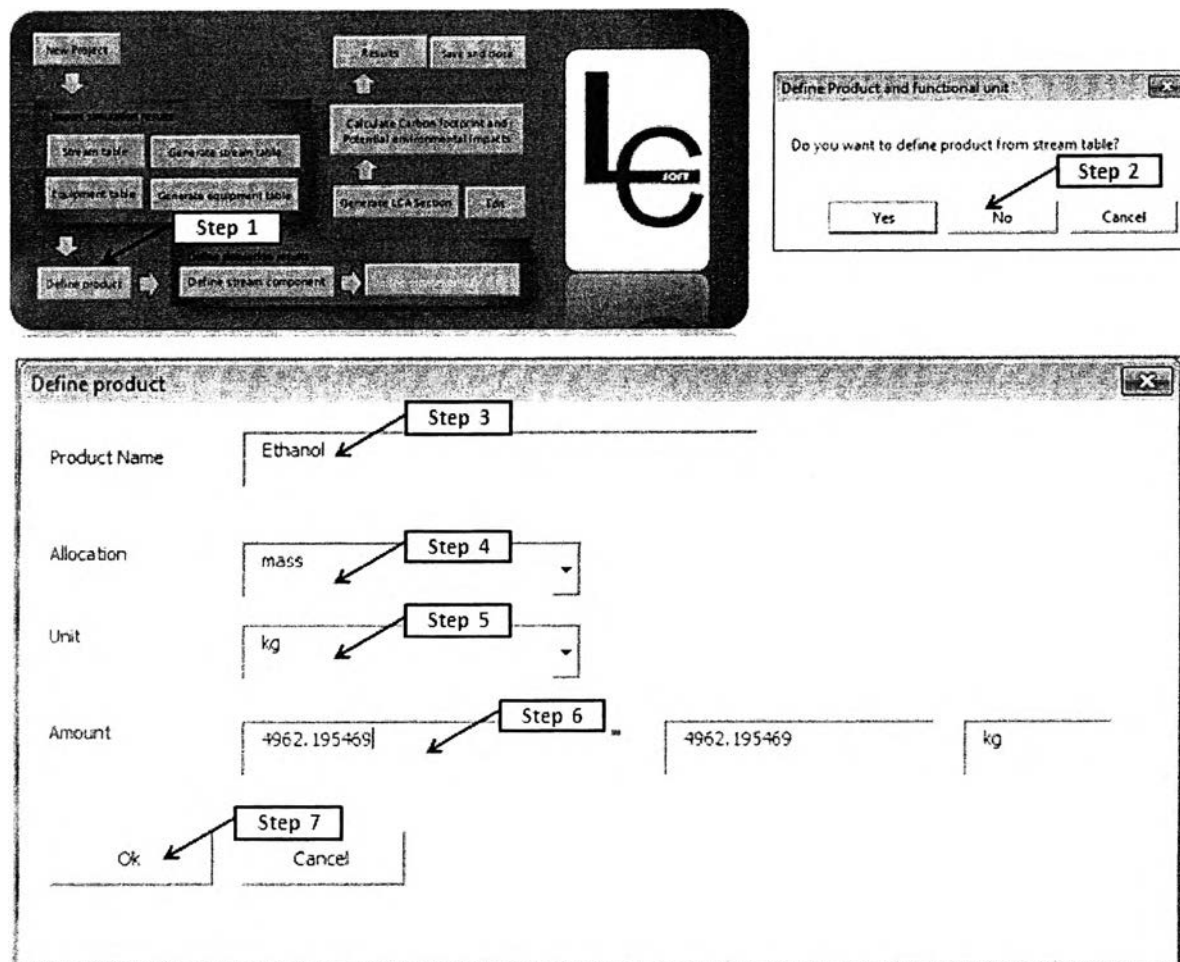

Figure A.14 Steps to define product without simulation results
Step 1: Click “Define product” button as shown in Figure A.14. Step 2: Click “No” button.